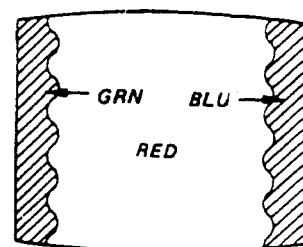

Fig. 3-2.
5. Adjust purity control to center vertical red band as shown in Fig.3-2.